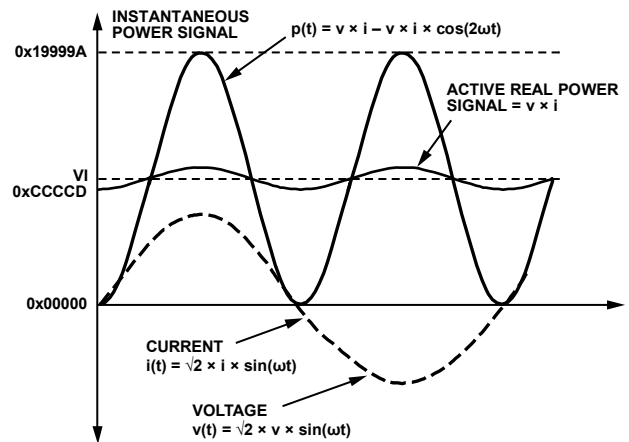

Figure 49. Active Power Calculation
Note that the active power is equal to the dc component of the instantaneous power signal  $p(t)$  in Equation 9, that is,  $VI$ . This is the relationship used to calculate active power in the ADE7518. The instantaneous power signal  $p(t)$  is generated by multiplying the current and voltage signals. The dc component of the instantaneous power signal is then extracted by LPF2 (low-pass filter) to obtain the active power information. This process is illustrated in Figure 49.
The ADE7518 also incorporates an active power offset register (WATTOS[15:0]). It is a signed, twos complement, 16-bit register that can be used to remove offsets in the active power calculation (see Figure 49). An offset can exist in the power calculation due to crosstalk between channels on the PCB or in the IC itself. The offset calibration allows the contents of the active power register to be maintained at 0 when no power is being consumed.
As mentioned previously, the discrete time sample period (T) for the accumulation register is 1.22 μs (5/MCLK). With full-scale sinusoidal signals on the analog inputs and the WGAIN register set to 0x000, the average word value from each LPF2 is 0xCCCCD (see Figure 49). The maximum positive value that can be stored in the internal 49-bit register is 248 (or 0xFFFF,FFFF,FFFF) before it overflows. The integration time under these conditions when WDIV = 0 is calculated in the following equation: